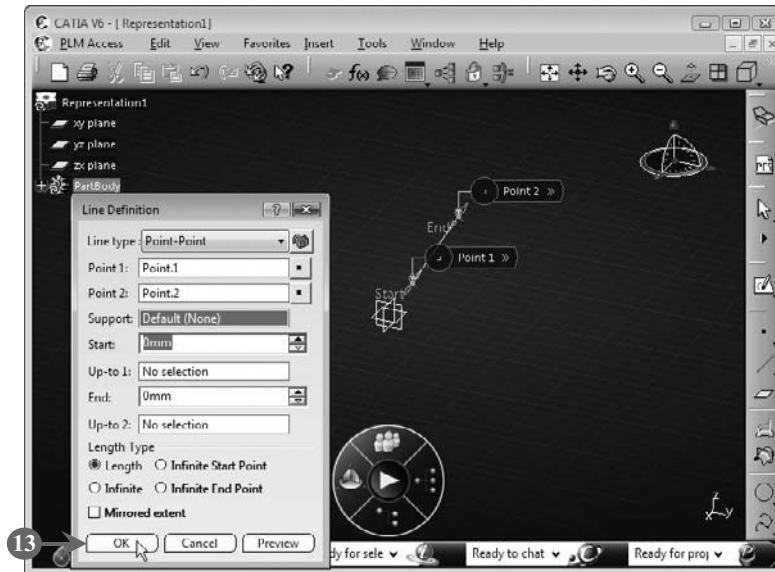

FIGURE 5.12
The end point for the line is added to the **Point 2** box in the **Line Definition** dialog box (**Figure 5.12**).
13. Click the **OK** button to close the **Line Definition** dialog box, as shown in **Figure 5.12**: